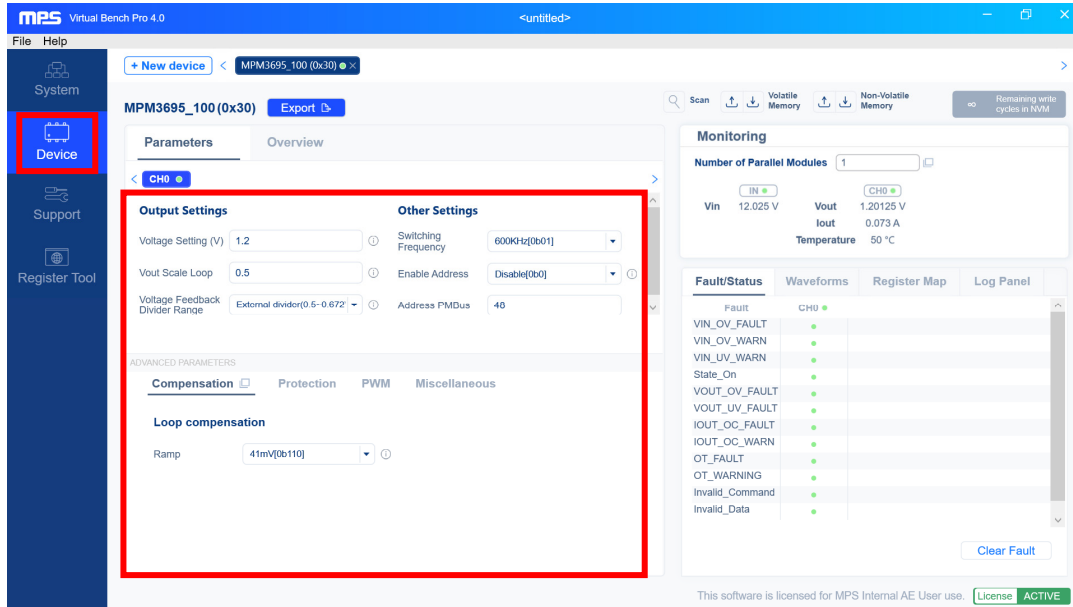

Figure 6: Register Control Menu
- Click “Device” on the left panel. The Register Control menu should appear, and the values stored in the module registers are read automatically (see Figure 6).